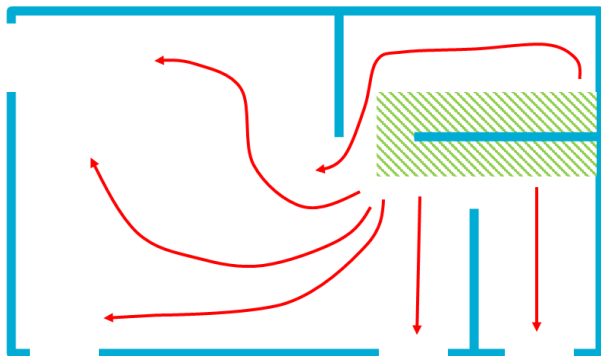

Figure 1: Strategic starting point
- **Plan, layout, and install from strategic starting spot;** please see Figure 1 as an example. Since the installer cannot put weight on tiles and must install from the unlaidd side, the adhesive applicator must apply at a 2-tile width for the installer to reach far enough to place the tile. With a strategic layout, the "glue spreader person" can continuously keep moving from spot-to-spot while the "tile layer person" installs the tile. The "tile layer person" waits about 10 minutes for the adhesive to "firm-up" and "level-out" to then lay tile, again moving from spot-to-spot. Near edges, the tile layer must first cut and dry lay fit the tile before adhesive is applied. The installation must finish at an exit door.